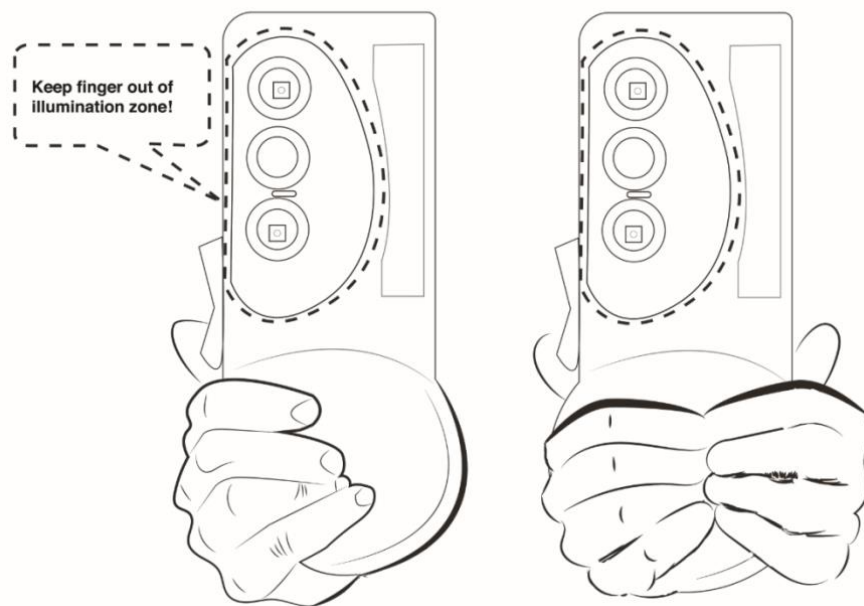

Figure 7: How to hold the device with one hand (left) and two hands (right)
A standardized wound imaging protocol is critical to the accuracy and objectivity of digital wound evidence and image capture. Images should be acquired while holding the device stable in the hands of the user and while the patient is not moving (to avoid movement artifacts in the images). See Figure 7.
**Note** The optical glass windows (see Figure 7) must be clean for optimal Standard Imaging Mode and Fluorescence Imaging Mode image capture. Refer to Section 12 for information about cleaning MolecuLight *i:X*.
Caution Covering LEDs with your fingers will result in poor image quality. The Illumination Zone on MolecuLight *i:X* (see Figure 7) represents the intended keep-out zone for the LEDs.